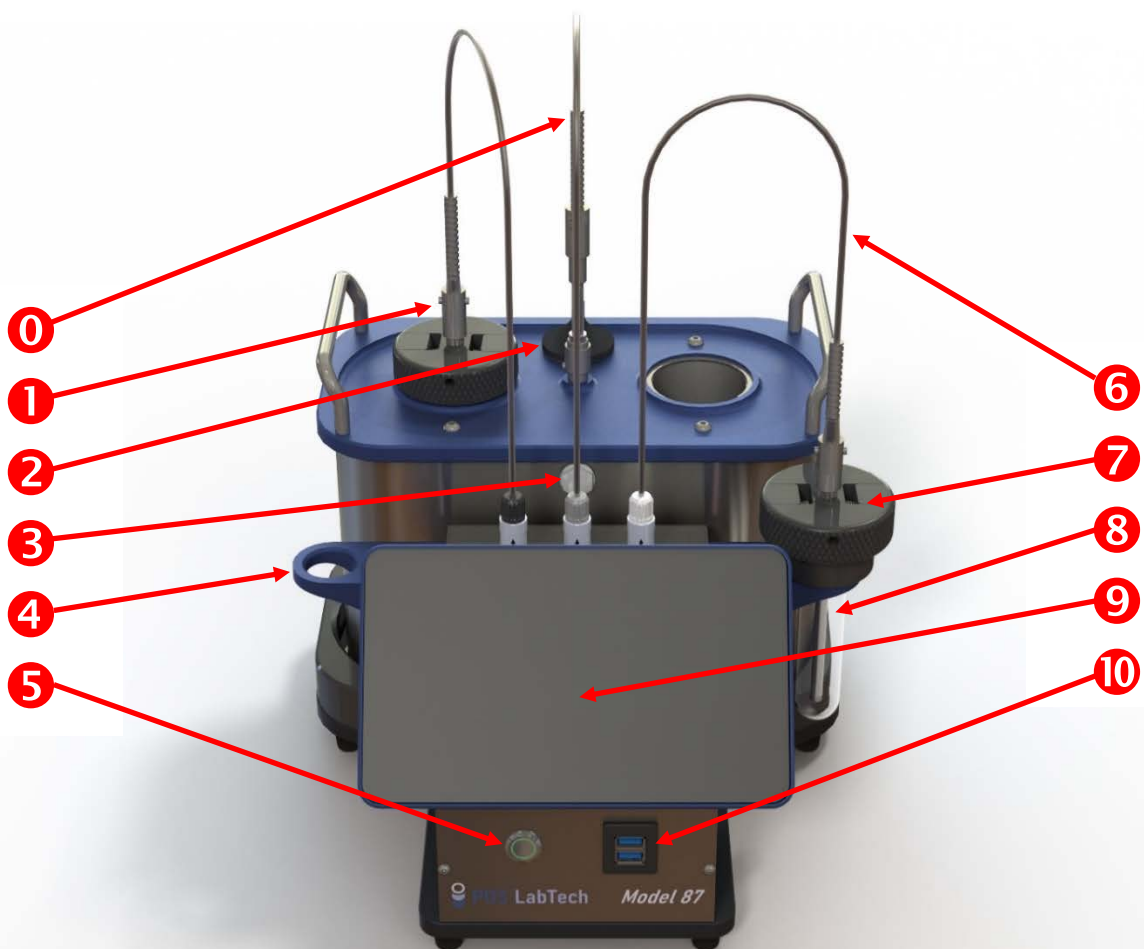

Figure 1: PDS LabTech Model 87 Components
①	Water Bath Fill/Drain Cap – shown removed
②	Water Bath Fill/Drain Port
③	Bath Lift Handle
④	Water Bath Sight Gage for Checking Water Level
⑤	Water Bath – shown removed from Instrument Base
⑥	Instrument Base – shown with Water Bath removed
⑦	USB-C Connector for Power Adpter – on rear side of the Instrument Base
Setting up the Air/Water Bath: Remove the Air/Water Bath from the instrument base and loosen the black Fill/Drain Cap (Item 2 on Figure 1) by turning it counter-clockwise. Fill the bath with distilled water at room temperature between 22 °C and 26 °C as per ASTM D87. An algacide water additive, such as is suitable for use in a water humidifier, may be used. The wetted bath components are stainless steel and should not corrode. Fill the bath (3.7 L total volume) until the water level is in the center of the small Water Bath Sight Gage ③ in the front top of the bath.